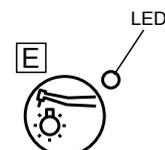

Fig.3-6 Light Pack Switch
④ The Light Pack Switch (Optional)(Fig.3-6) [E]